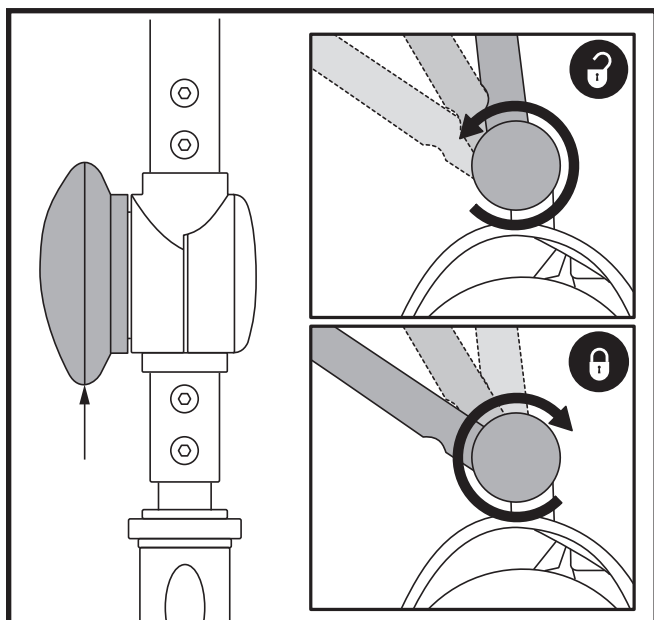

Figure 27. Tiller Adjustment Knob
1. With the seat and battery pack removed (see Disassembly Procedures on previous page), lower the tiller and tighten the tiller adjustment knob. **See figures 27 or 28.**